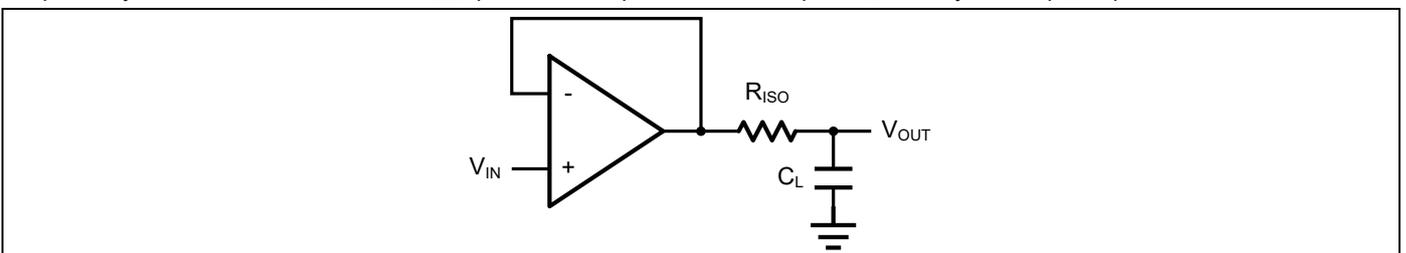
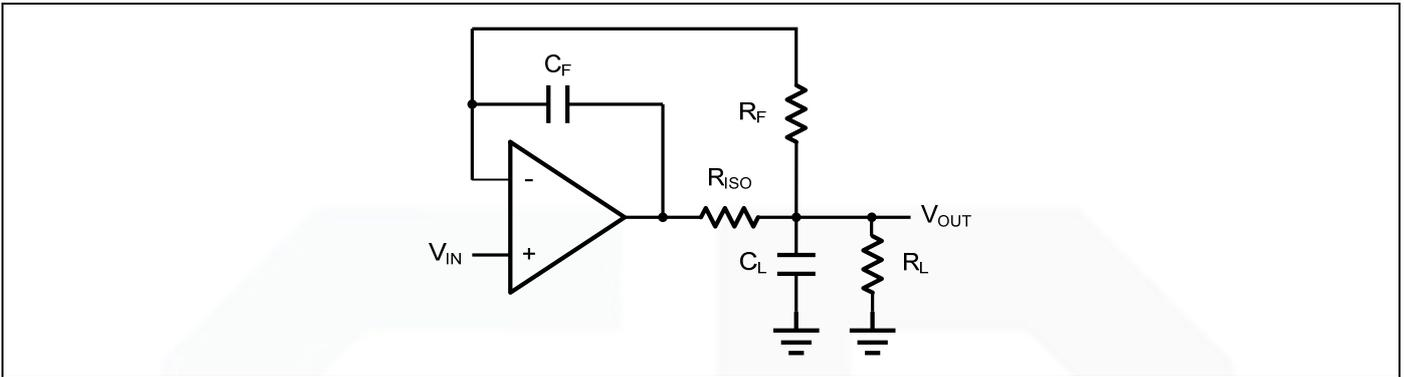

Figure 2. Indirectly Driving a Capacitive Load Using Isolation Resistor
Figure 3. Indirectly Driving a Capacitive Load with DC Accuracy
The LMV321A/V358A family is optimized for bandwidth and speed, not for driving capacitive loads. Output capacitance will create a pole in the amplifier's feedback path, leading to excessive peaking and potential oscillation. If dealing with load capacitance is a requirement of the application, the two strategies to consider are (1) using a small resistor in series with the amplifier's output and the load capacitance and (2) reducing the bandwidth of the amplifier's feedback loop by increasing the overall noise gain. Figure 2. shows a unity gain follower using the series resistor strategy. The resistor isolates the output from the capacitance and, more importantly, creates a zero in the feedback path that compensates for the pole created by the output capacitance.
The circuit in Figure 3 is an improvement to the one in Figure 2.  $R_F$  provides the DC accuracy by feed-forward the  $V_{IN}$  to  $R_L$ .  $C_F$  and  $R_{ISO}$  serve to counteract the loss of phase margin by feeding the high frequency component of the output signal back to the amplifier's inverting input, thereby preserving the phase margin in the overall feedback loop. Capacitive drive can be increased by increasing the value of  $C_F$ . This in turn will slow down the pulse response.